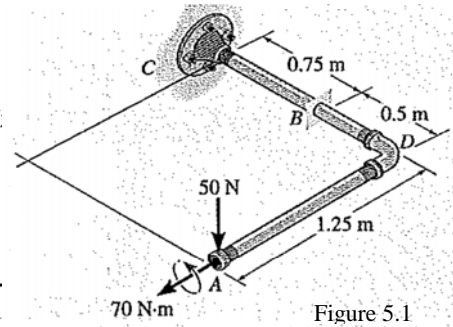

Figure 5.1
**Ví dụ 05:** Determine the resultant internal loadings acting on the cross section at  $B$  of the pipe shown in Fig. 5.1. The pipe has a mass of  $2 \text{ kg/m}$  and is subjected to both a vertical force of  $50 \text{ N}$  and a couple moment of  $70 \text{ N} \cdot \text{m}$  at its end  $A$ . It is fixed to the wall at  $C$ .